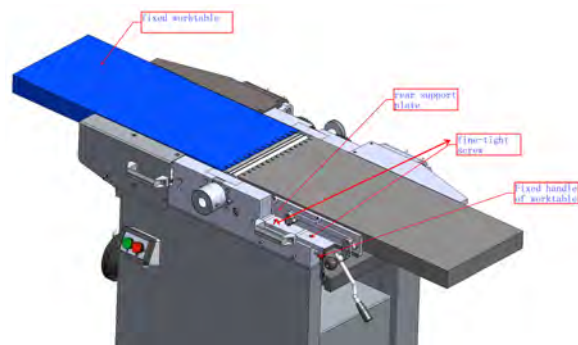

Fig. 23: Table adjustment
The front working table (blue, Fig.23) is not adjustable.
Step 2: Release the clamping lever (Fig.23).
Step 6: Tighten the clamping lever (Fig.23).